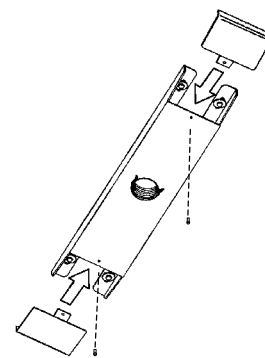

Figure 3
4. Slip on both end covers and secure using two 6-32X5/16" Phillips head screws (see Figure 3).